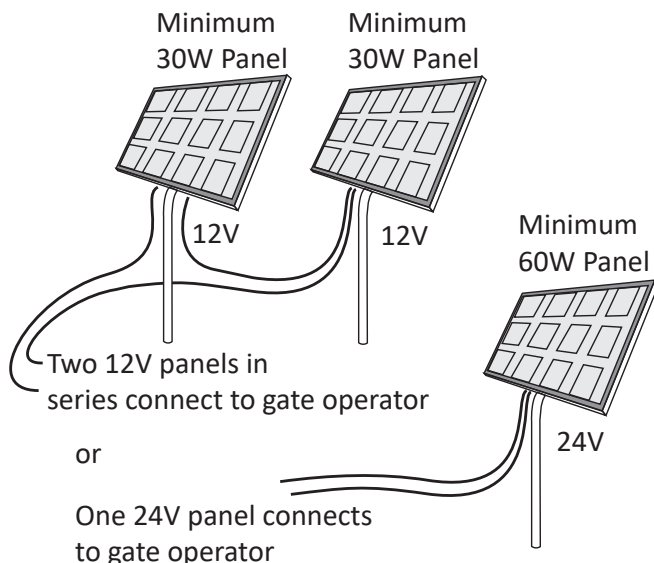

Figure 34. Minimum Solar Panel Configuration
1. Install one 24VDC solar panel or two 12VDC solar panels in series with a total capacity of at least 60W (Figure 34). Mount them according to the manufacturer's installation instructions within 100 ft of the operator. Check NEC and local regulations for other distances that may apply.